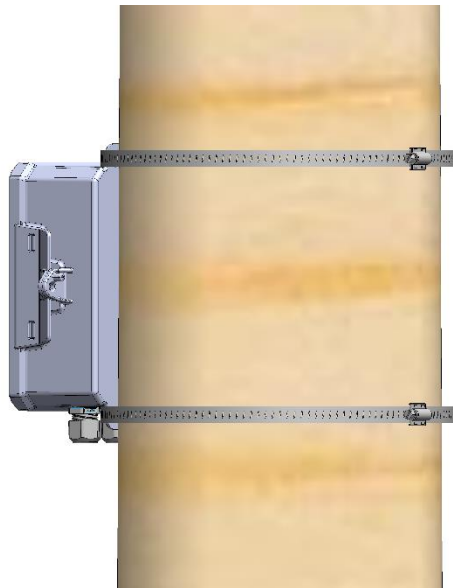
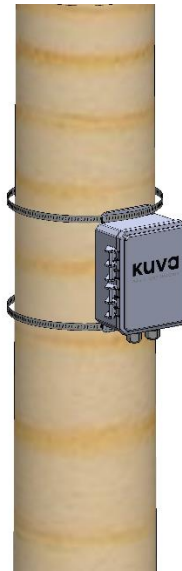

Figure 87 Kuva Power box attachment to utility pole
Figure 88 Kuva Power Box utility pole assembly
3. Place Kuva Power Box and hose clamps in desired position on utility pole as per Figure 87 and Figure 88.